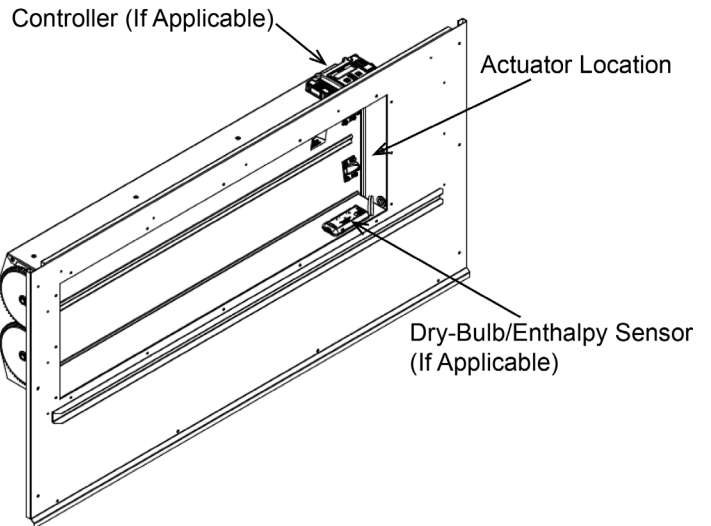

FIGURE 15 - CONTROLLER AND ACTUATOR
11. Leave the filter access panel above the outside air damper hood off at this point to access the controller and actuator. Controller and actuator are mounted directly to outside air damper assembly (see Figure 15).